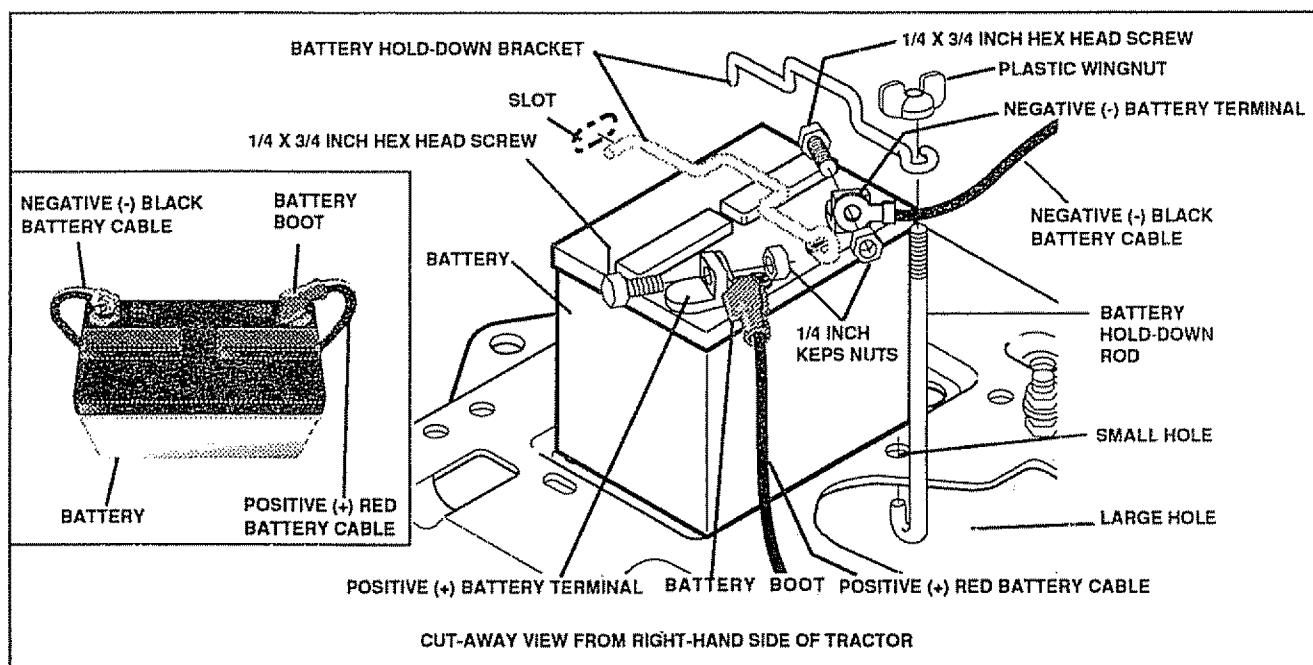

FIG. 9
REINSTALL CHARGED BATTERY (See Fig. 9)
- Place battery boot over positive (+) battery terminal (see Fig 9 inset).